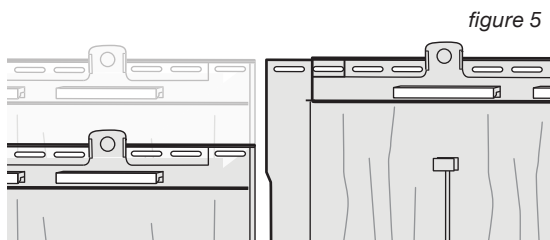

figure 5
4. Install the next panel by positioning it below the hanger and next to the first panel. Push in and up to lock the panel into the hanger, as shown in figure 5. Space the second panel according to the panel temperature at the corresponding temperature indicator lines (figure 1). Gently tap the outside of the HammerTapper™ ribs to properly position the panel left or right.